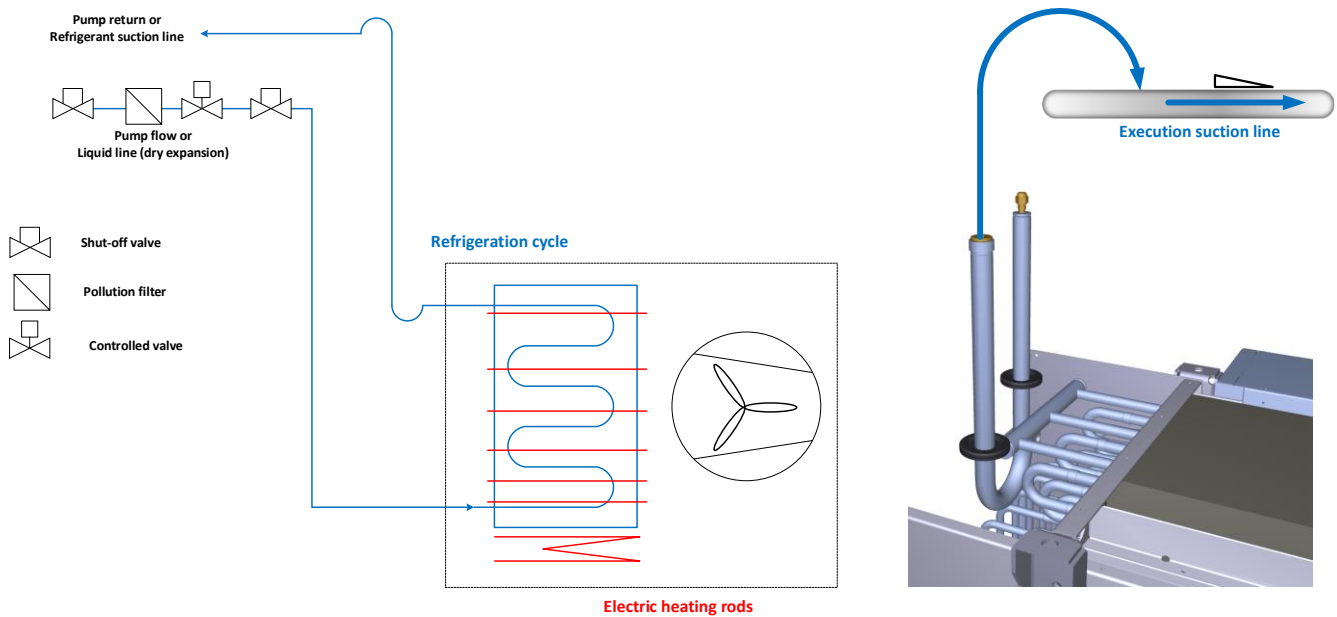

Figure 4: fittings and design, supply and return refrigerant
- refrigerant valves must close tightly during the defrosting process → filters **required** in front of each solenoid valve (Figure 4); Attention of trapped liquid when the valves are shut off!